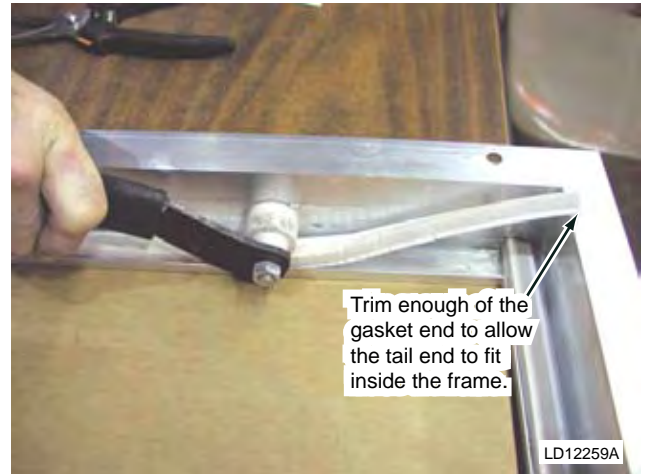

FIG. 5-56 – TRIM GASKET END
- Trim enough of the gasket off in order to allow the tail end to fit inside the frame (see Fig. 5-56).